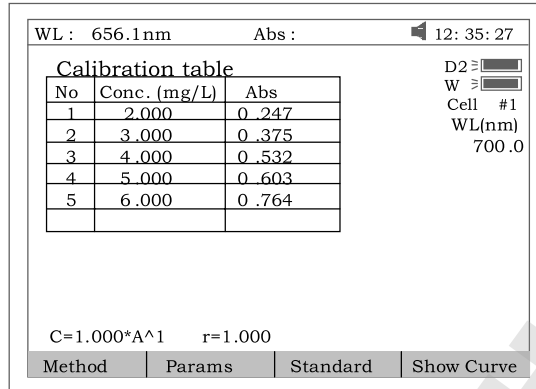

Fig 33
3.3.3 Pull the first sample cuvette of known concentration into the light path, Press the key **【START/STOP】** to get values of standard curve one by one (Fig 33).
In Fig 33 press **【OPEN】** and then press **【^】** or **【v】** to select the file with type **\*\*\*.fit**. At last press **【ENTER】** to confirm.